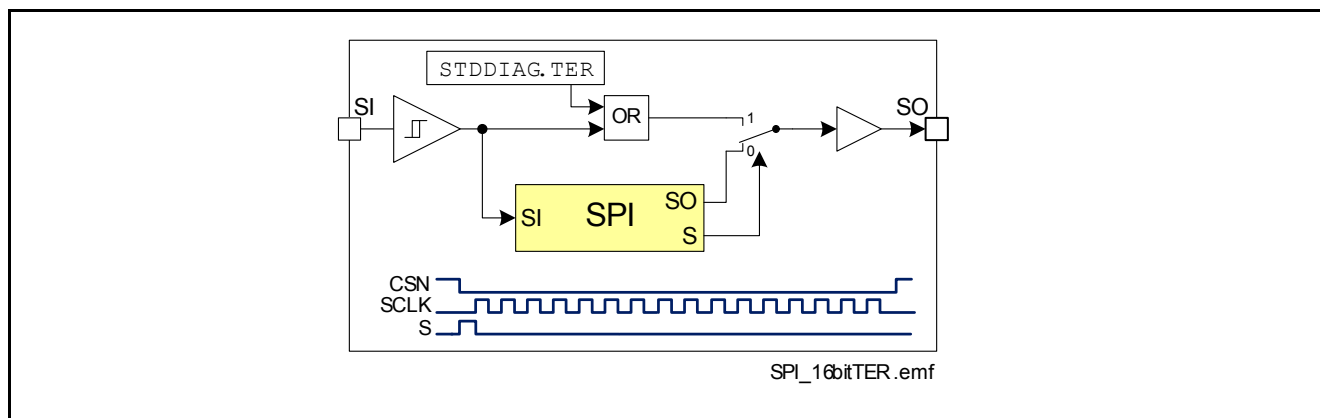

Figure 30 Combinatorial Logic for TER bit
- **TER** Flag will set the Bit number 10 in the STD diagnosis Frame. This Bit is set to HIGH after an undervoltage condition, reset via SPI command, on Limp Home state entering or after an incorrect SPI transmission. **TER** Flag can be read also directly on the SO line between the falling edge of the CSN and the first rising edge of the SCLK according to the Figure 30.